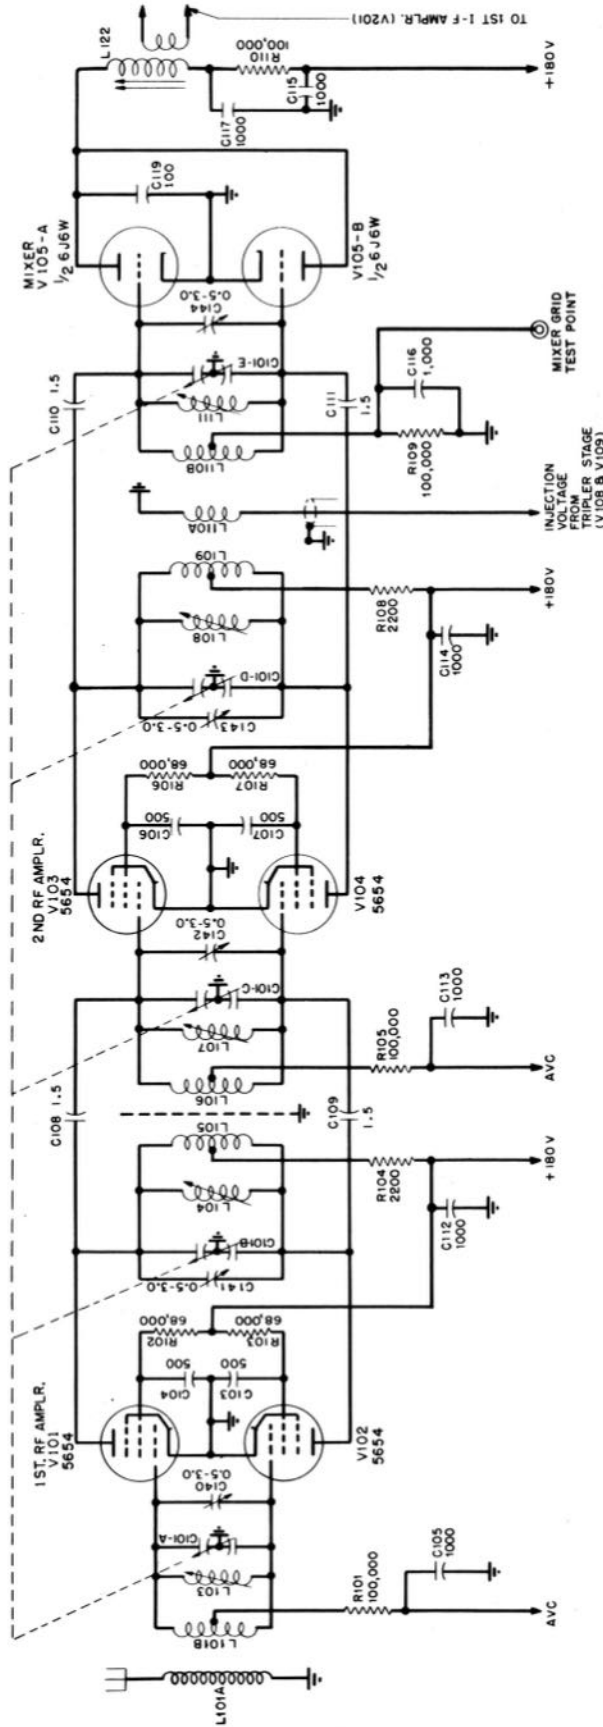

Figure 2-2. Simplified Schematic—R-f Amplifier Section of Preselector
(1) R-F AMPLIFIER SECTION (figure 2-2).
(c) **FIRST R-F AMPLIFIER.** As shown in the simplified schematic diagram, figure 2-2, the antenna circuit is coupled to the grid input circuit of this stage. The grid circuit consists of tank inductance L102, trimmer inductance L103, a section of capacitor C101, and trimmer capacitor C140. Two type 5654 pentode tubes, V101 and V102, are operated in push-pull. The push-pull arrangement serves to reduce the lengths of the connecting leads to a minimum and to cancel out spurious radiation of unwanted signals into the antenna. AVC voltage is applied to the grid circuit of this stage through decoupling resistor R101 and the center tap on coil L102. A feed-through type r-f by-pass capacitor (C105) functions to by-pass the AVC line at this point. This capacitor is located in the casting wall. The screen voltage is applied through screen voltage-dropping resistors R102 and R103. The 180-volt supply is by-passed to ground at this point by capacitor C112, while resistors R102 and R103 are by-passed by the button-type silver-mica capacitors, C104 and C103, respectively. The plate circuit is similar in design to the grid circuit and consists of basic inductance L105, a section of C101, trimmer inductance L104, and trimmer capacitor C141. Plate voltage is brought through resistor R104 to the center tap on coil L105. No appreciable inductive coupling exists between the plate circuit of the first r-f stage and the grid circuit of the second r-f stage because coils L105 and L106 are shielded from each other by the wall of the casting. Coupling between these two stages is accomplished by means of capacitors C108 and C109, which are connected directly from the plates of the tubes in the first stage to the grids of the tubes in the second stage. With tubes having a nominal value of transconductance, the gain of the first r-f amplifier is approximately 10db.
(d) **SECOND R-F AMPLIFIER.** This stage, employing tubes V103 and V104 in push-pull, is identical in design and in circuit constants to that of the first r-f stage (figure 2-2). The tuned grid circuit consists of a section of capacitor C101, tank inductor L106, trimmer inductor L107, and trimmer capacitor C142. The plate circuit consists of a section of capacitor C101, tank inductor L109, and the trimmers L108 and C143. AVC voltage is brought to the center tap of coil L106 through decoupling resistor R105; the AVC line is by-passed to ground by capacitor C113. Plate voltage is brought through resistor R108; screen voltage is connected from the junction of C114, R108, the supply is by-passed to ground at this point by capacitor C114. R107 and R106 are screen voltage-dropping resistors, which are by-passed by
(e) **MIXER.** The mixer, or first detector, stage employs a JAN type 6J6W dual triode, V105, in a push-push arrangement (figure 2-2). The grid circuits are connected in push-pull through the resonant circuit consisting of a section of capacitor C101, tank inductor L110, trimmer capacitor C144, and trimmer inductor L111. The plates of the tubes are connected in parallel to plate transformer L122. Capacitor C119, connected between the plate of one mixer tube and ground, serves to tune L122 to resonance at the intermediate frequency. This capacitor is connected directly to ground to provide a low-impedance path for other than intermediate frequency r-f currents. With the push-push arrangement of the mixer a high order of conversion gain is obtained because the push-push conversion transconductance is approximately twice that of a single converter tube.